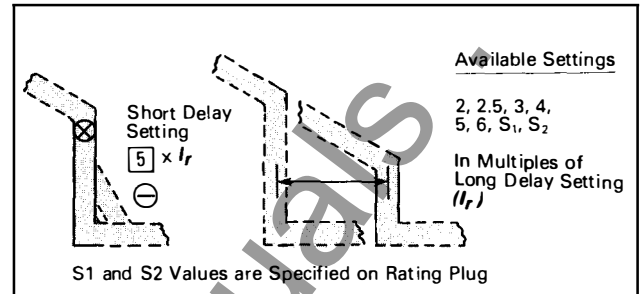

Fig. 4.3 Short Delay Current Settings
There are eight (8) available Short Delay Current Settings, as illustrated in Fig. 4.3. Six settings are in the range from 2 to 6 times I_r and the other two settings are "S1" or "S2" times I_r . (REMEMBER: I_r is the Long Delay Current Setting). The values